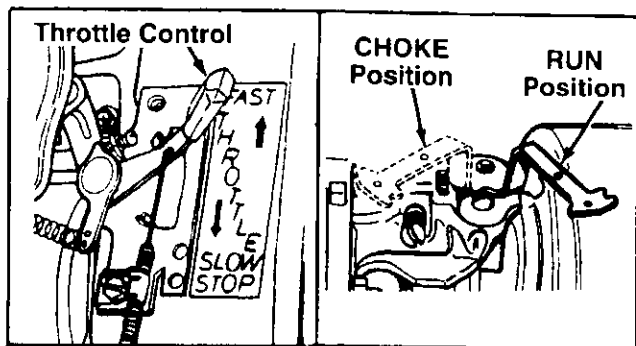

FIGURE 9.
- Move throttle control lever to STOP position. See figure 9.